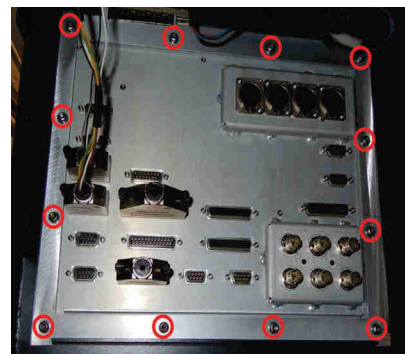

Fig. 7.23 12 screws
- 6 From the bottom of the cabinet, remove 12 Torx T20 screws holding the External I/O board (tools 1/8). The position of the screws is shown in Fig. 7.23 \(p. 125\).